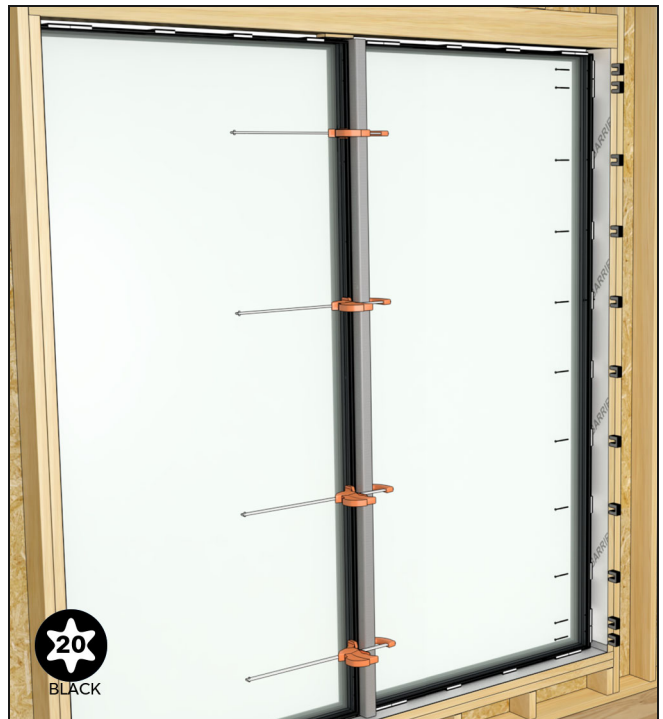

Figure 100
21. Complete fastening around the entire perimeter using the pre-drilled installation holes. See Figure 100.